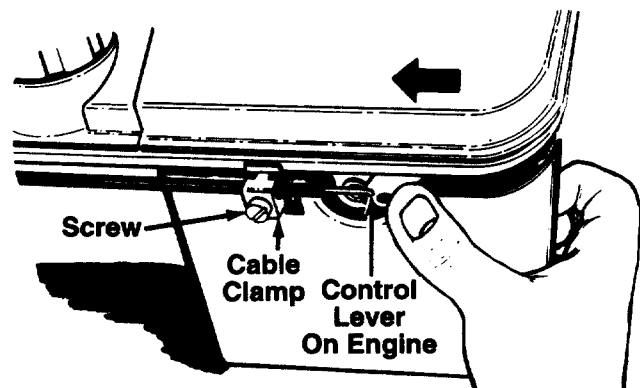

FIGURE 10.
1. Remove the screw shown in figure 10. Remove the cable clamp from the cable.